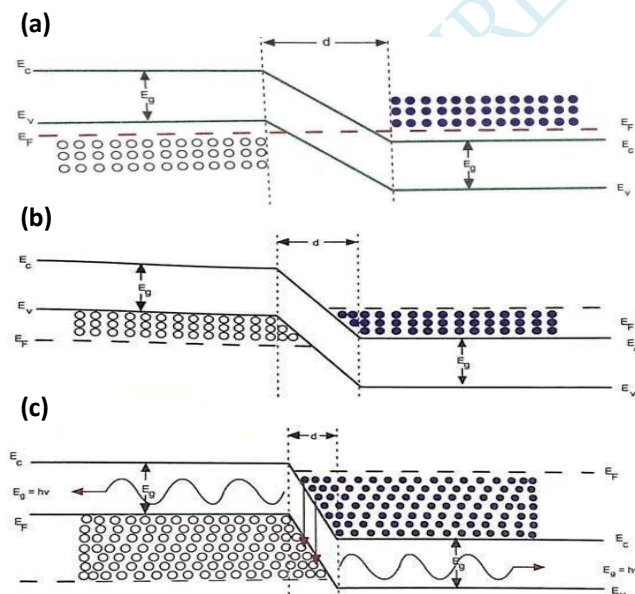

Figure 5.8: (a) At equilibrium (Unbiased condition), (b) With a small forward bias is applied and (c) When large bias is applied.
- When the forward bias is not connected, then the energy diagram will be as shown in figure below, no electrons and holes are present in the depletion region as in Fig. 5.8(a).